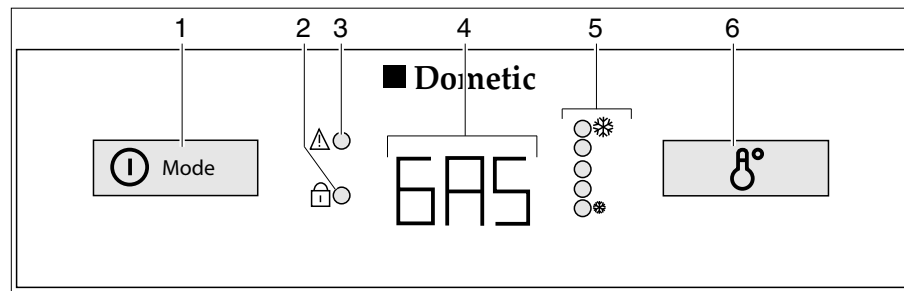

Fig. 334 Operating controls for the refrigerator (Dometic 8 series with AES)
In the case of a fault, the LED display fault will flash "⚠" (Fig. 334,3).
If the 240 V power supply is **not** connected and the vehicle's engine is **not running** the AES selects the gas supply. When selecting gas operation the ignition fuse is opened automatically so gas can get into the burner. At the same time the electronic ignition is activated. If the gas flame is extinguished, e.g. by blast of wind, the ignition is activated immediately and re-ignites the gas. In the case of a fault in gas operation the text "GAS" flashes in the operating indicator (Fig. 334,4).
When turned on the first time the refrigerator automatically selects the middle thermostat position. This position can be adjusted manually by using the switch for temperature setting (Fig. 334,6). The indicator LEDs (Fig. 334,5) show the selected thermostat position. The refrigerating temperature for the three types of energy is set with the switch. It takes a few hours till the refrigerator reaches its normal operating temperature. When changing over the operating mode the thermostat setting will be maintained. The refrigerating temperature is retained regardless of the type of power being used.
- Press the on/off switch/energy selector switch (Fig. 334,1) down for 2 seconds in order to switch on the appliance. The operating mode selected most recently is shown in the operating indicator (Fig. 334,4).
- Select the energy type with the on/off switch/energy selector switch (Fig. 334,1).
- Set the refrigerating temperature on the switch for temperature setting (Fig. 334,6). The indicator LEDs (Fig. 334,5) show the selected thermostat position.
- Press down the on/off switch/energy selector switch (Fig. 334,1) for 2 seconds. All displays close.